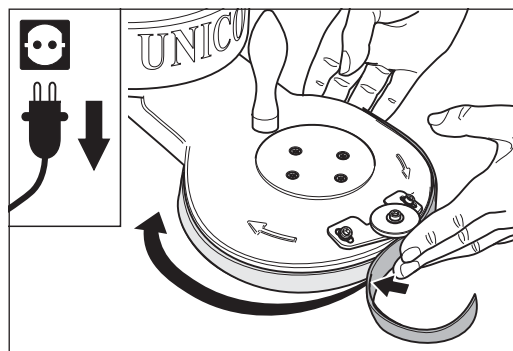

Fig. 10 Install the Velcro strip carefully to ensure properly sealing.
- 2 Fasten the Velcro strip by one end of the adhesive strip to the attachment and then place it all the way around the attachment (fig. 10).